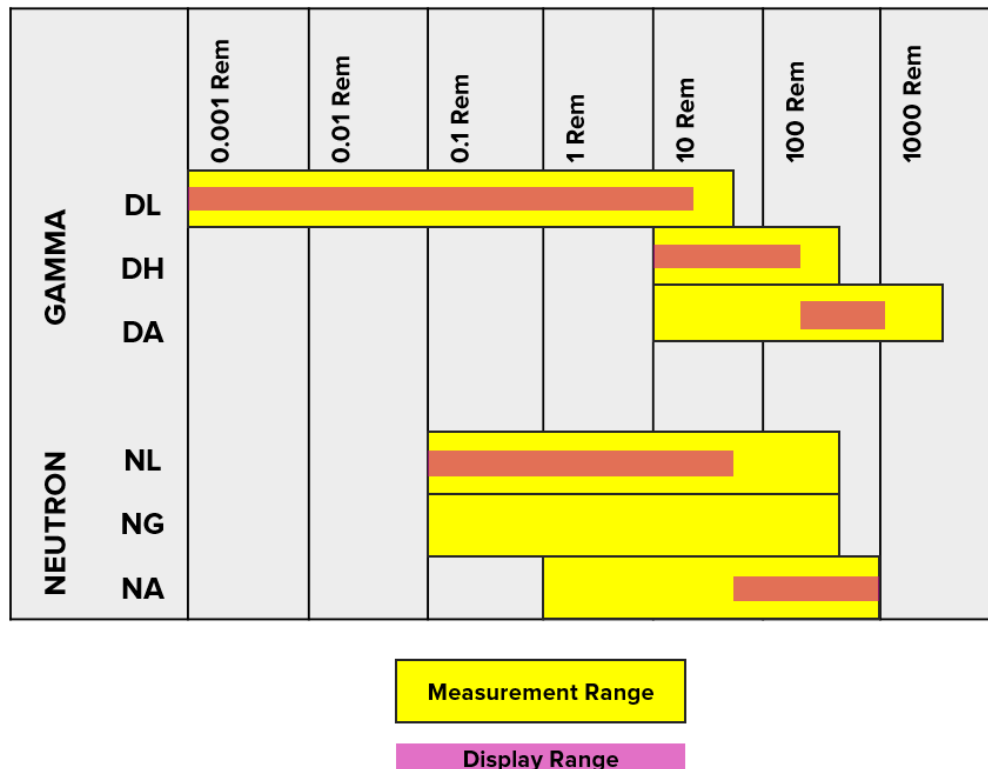

Figure 2-2: MBD-1 Detectors and Measurement Range Chart
Each detector element is listed in Table 2-1, MBD-1 Detector Table and Figure 2-2, MBD-1 Detectors and Measurement Range Chart below.
Note that while Figure 2-2 lists dose units in rem, any displayed results from the gamma accident range (DA) or neutron accident range (NA) detector elements are provided in rad.